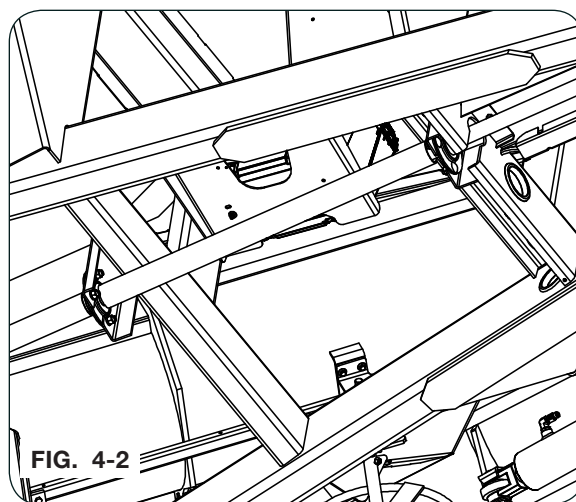

FIG. 4-2
3. Engage the locking plate (268313B). (FIG. 4-2)
4. Loosen mounting hardware. (FIG. 4-2)
3. Remove the 1/2" carriage bolts (9388-103), flange nuts (9394-010), and lock washers (9404-025) holding the flangette bearings. Keep hardware. (Fig. 4-2).